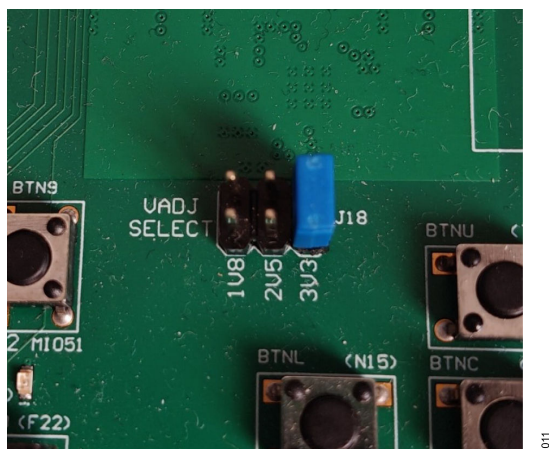

Figure 11. Jumper Position VADJ
3. Before executing the steps 4, 5, and 6, make sure that VADJ jumper is set to 3.3V, as shown Figure 11 (if required, install a header connector).